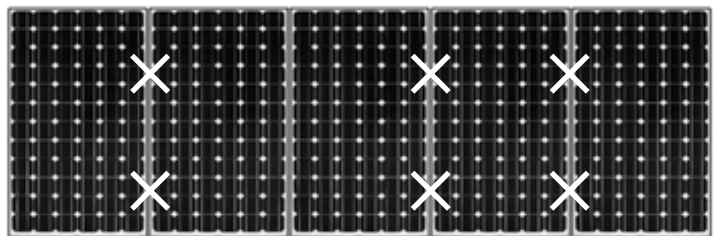

Figure 17
2) When there is an odd number of PV Module in each row: Install grounding clips at positions marked X in Figure shown. Then the number of Grounding Clips = number of PV Module + 1. Eg: 6 grounding clips as shown in Figure 17.